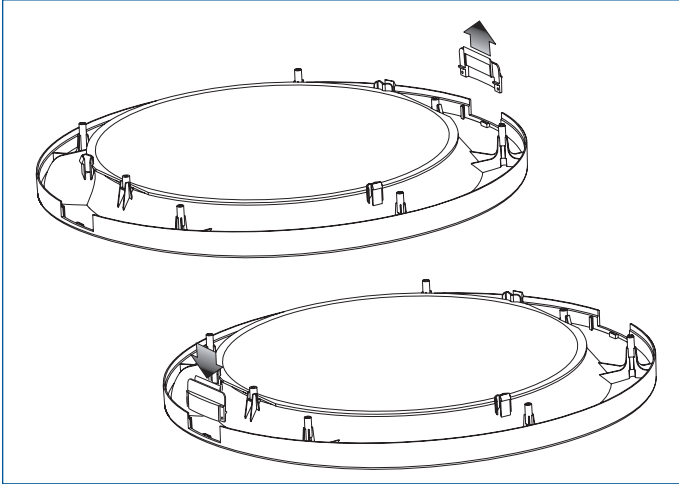

Figure 2-26.
1. Locate and remove the hinge cutout gate from the outer door assembly. Rotate and move it to the opposite hole in the outer door. (See Figure 2-26)